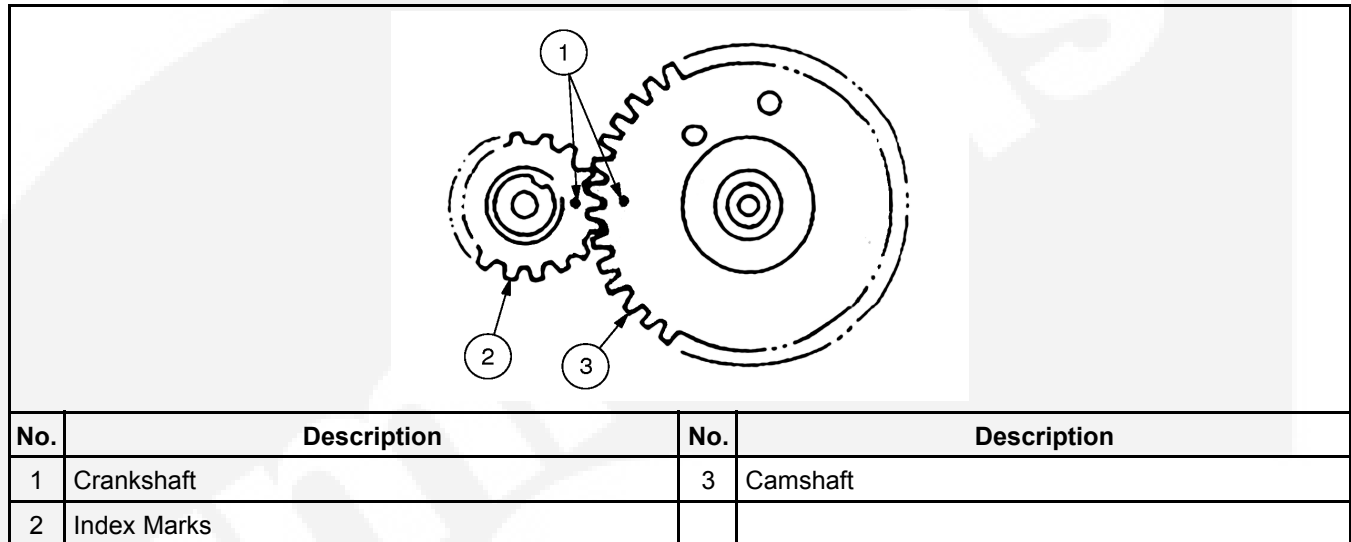

FIGURE 43. CAMSHAFT/CRANKSHAFT MARKINGS
2. Reinstall the piston (item 1).
3. Install the tappets (item 10) immediately before installing the camshaft (item 9).
4. When reinstalling the camshaft, make sure the decompressor weight (item 11) moves smoothly and the spring is not weak or worn.
5. Align the index marks on the camshaft with the index mark on the crankshaft (see Figure 43).